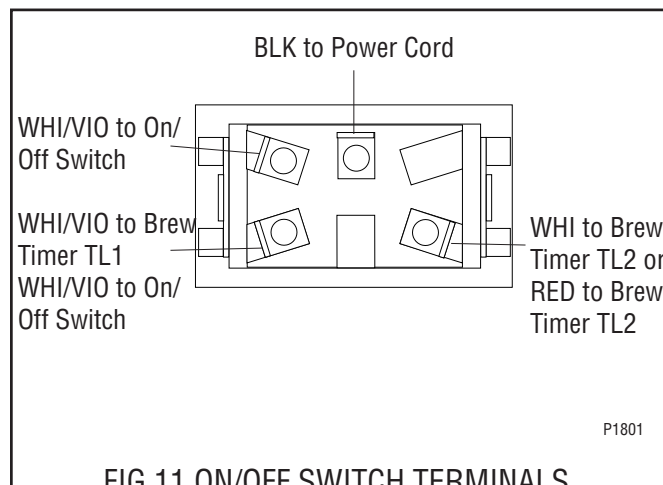

FIG. 11 ON/OFF SWITCH TERMINALS
4. Refer to FIG. 11 when reconnecting the wires.